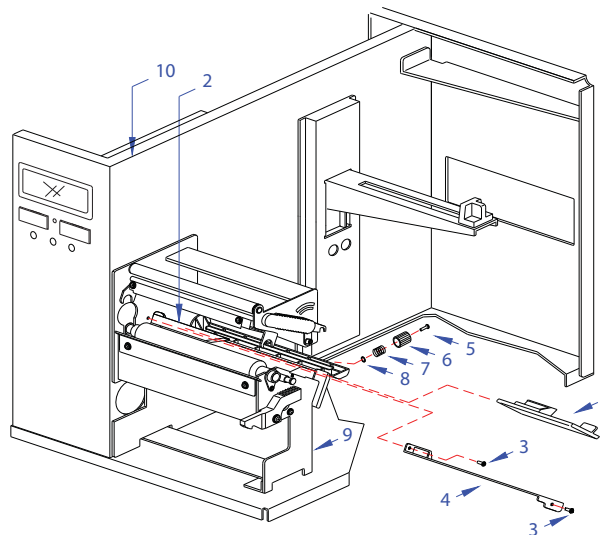

Figure 7-12, Label Sensor Replacement
- 3 From the printer's print side, detach media plate (1, Figure 7-12) from defective label sensor (2).
- 4 Remove two screws (3) securing RFID antenna cover (4). Withdraw cover (4) from defective sensor (2).
- 5 Locate and remove screw (5) securing green, label adjustment knob (6).
- 6 Lift away knob (6), spring (7), and nylon washer (8) from defective label sensor (2).
- 8 Manipulate defective label sensor assembly (2) upward from within print assembly (9) and remove it.
- 9 Route the replacement label sensor's wiring harness through the slot in the printer's center frame (10) and then manipulate the replacement sensor assembly downward into print assembly (9).
- 10 Apply nylon washer (8), spring (7), and green knob (6) to replacement label sensor assembly (2) and secure using screw (5).
- 11 Secure the RFID antenna cover (4) with two screws (3) and attach the media plate (1) to the replacement label sensor (2).